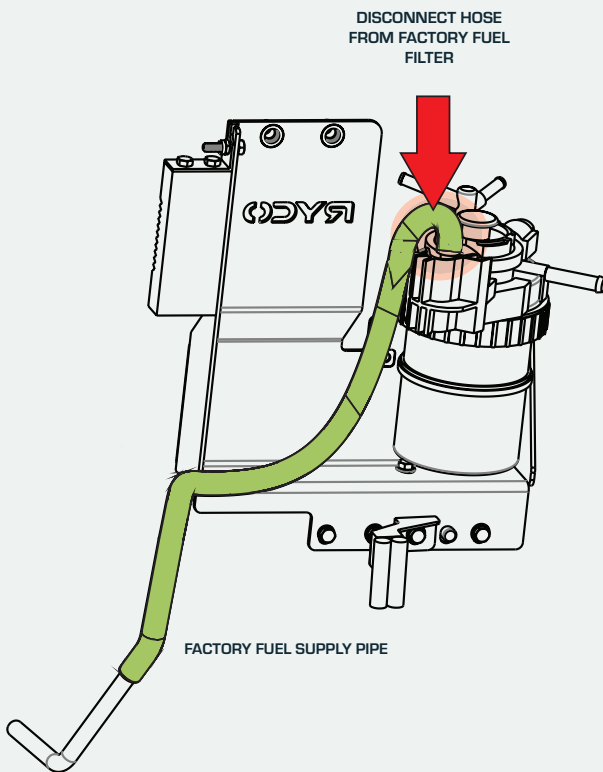
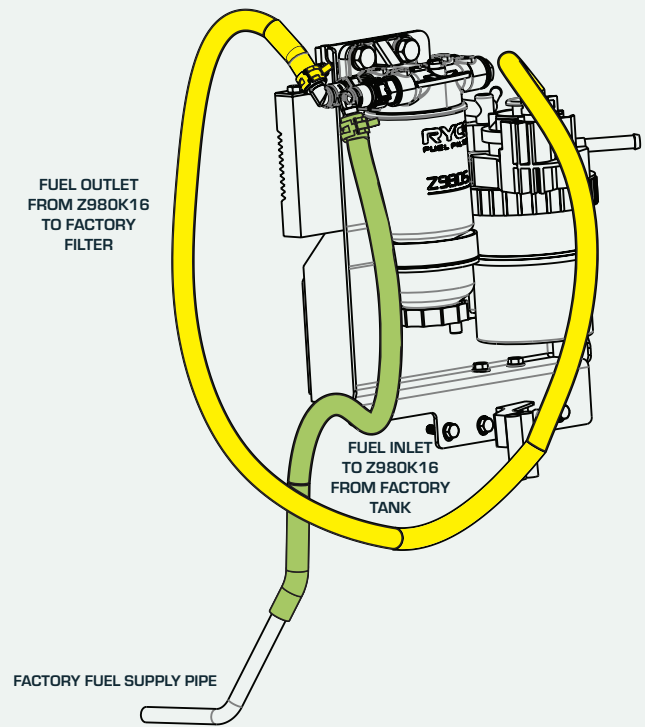

FIGURE 5
FIGURE 6
- 1 Locate the fuel inlet hose at the factory fuel filter. Loosen the factory fuel hose clamp and disconnect the fuel supply line coloured green in FIG. 5) from the factory filter. Have a rag ready to capture any diesel that may spill out of the fuel line and the fuel filter. Then install supplied fuel hose clamp and insert the supplied elbow connector (MS4081) onto the end of fuel supply line, do not tighten fuel hose clamps yet.
- 2 Mount the Z980K16 fuel filter assembly onto the fuel filter bracket facing to the engine using the two (2) black M10 bolts and washers supplied with the Z980K16
- 3 Connect the fuel supply line which has been prepared in step 5 to the inlet port of the Z980K16 (coloured blue in FIG. 6) by pushing the elbow connector onto the metal quick connector until you hear a "click".
- 4 Connect HF9808 hose to the outlet port of the Z980K16 (coloured yellow in FIG. 6) by pushing the elbow connector onto the metal quick connector until you hear a "click", and route the other end as per FIG. 6. Connect the end of the fuel hose to the factory fuel filter inlet port, then secure with a hose clamp.